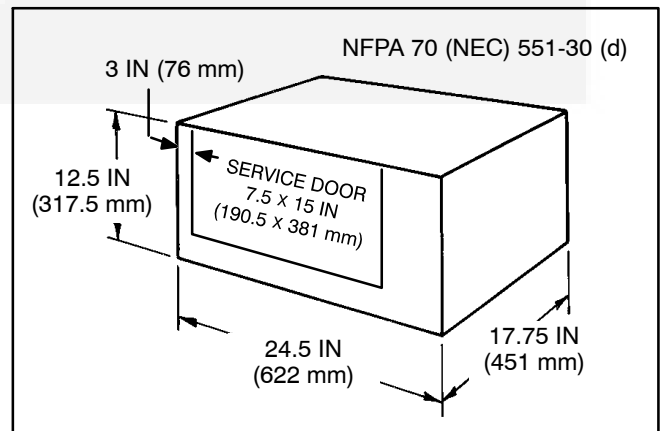

FIGURE 3-3. MINIMUM COMPARTMENT DIMENSIONS
1. Carefully measure the compartment size to make sure there will be proper clearance for the genset. Figure 3-3 shows the compartment dimensions. Add 1/2 inch (12.7 mm) to compartment depth if 1/2-inch (12.7 mm) insulation is used inside the door.